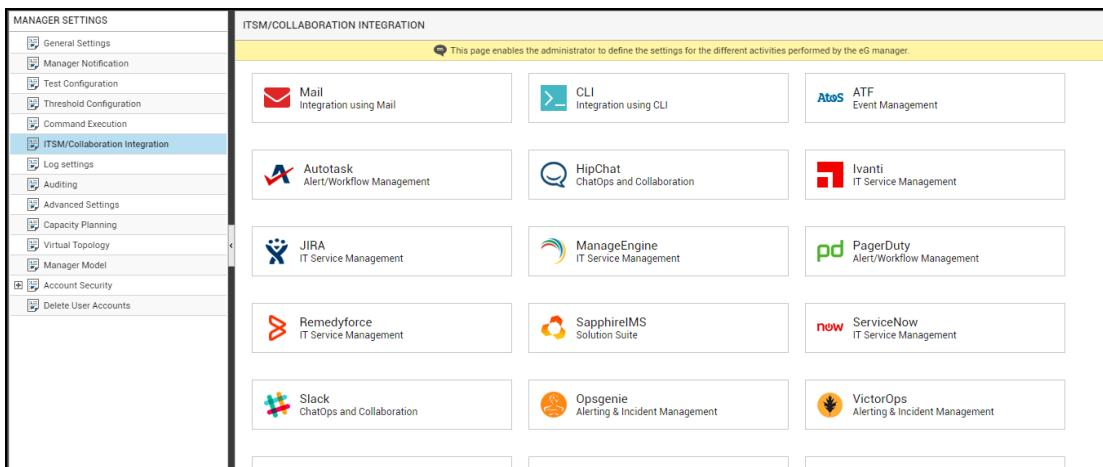
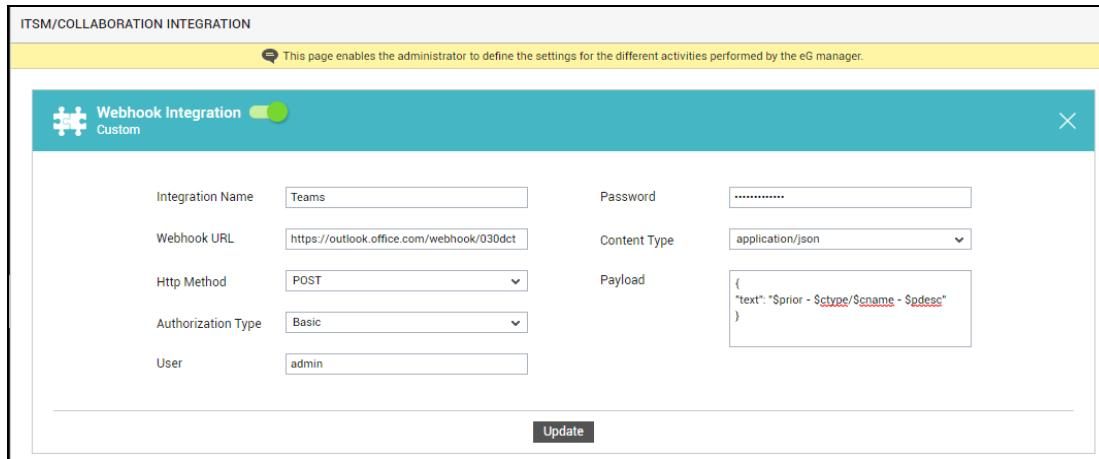

Figure 5.37: Viewing the ITSM/Collaboration tool options
Figure 5.38: Configuring integration using Webhooks
- Figure 5.37 will then appear. From the **MANAGER SETTINGS** tree in the left panel of Figure 5.37, select the **ITSM/Collaboration Integration** node. The third-party ITSM/Collaboration tools that eG Enterprise can integrate with will be listed in the right panel.
- Now, click on the **Webhook Integration** option in the right panel (see Figure 5.37). A **Webhook Integration** section will now appear in the right panel (see Figure 5.38).
5. To enable integration using webhooks, first slide the **Webhook Integration** slider in Figure 5.38 to the right.
6. Then, specify the following in Figure 5.38:
- Finally, click the **Update** button in Figure 5.38.